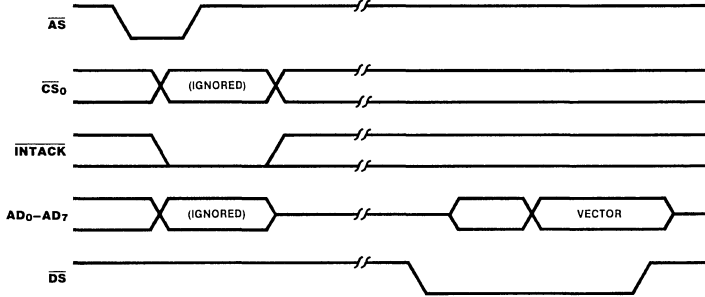

Figure 17. Interrupt Acknowledge Cycle Timing
**Interrupt Acknowledge Cycle Timing.** Figure 17 illustrates Interrupt Acknowledge cycle timing. The address on  $AD_0$ - $AD_7$  and the state of  $\overline{CS}_0$  and  $\overline{INTACK}$  are latched by the rising edge of  $\overline{AS}$ . However, if  $\overline{INTACK}$  is Low, the address and  $\overline{CS}_0$  are ignored. The state of the  $\overline{R/W}$  and  $CS_1$  are also ignored for the duration of the Interrupt Acknowledge cycle. Between the rising edge of  $\overline{AS}$  and the falling edge of